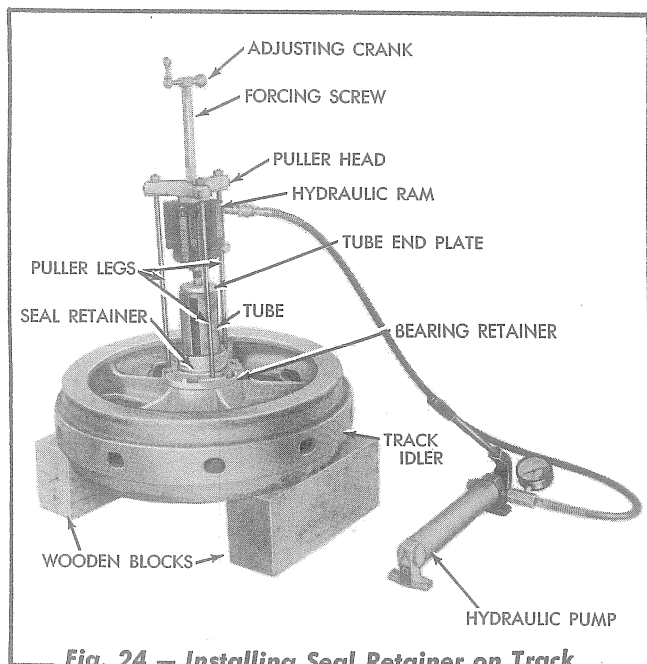

Fig. 24 — Installing Seal Retainer on Track Idler Shaft
7. Coat the mating surfaces of the seal rings with clean oil. Using tools similar to the ones shown in Fig. 24, press the seal retainers, with the outer seal ring in place,